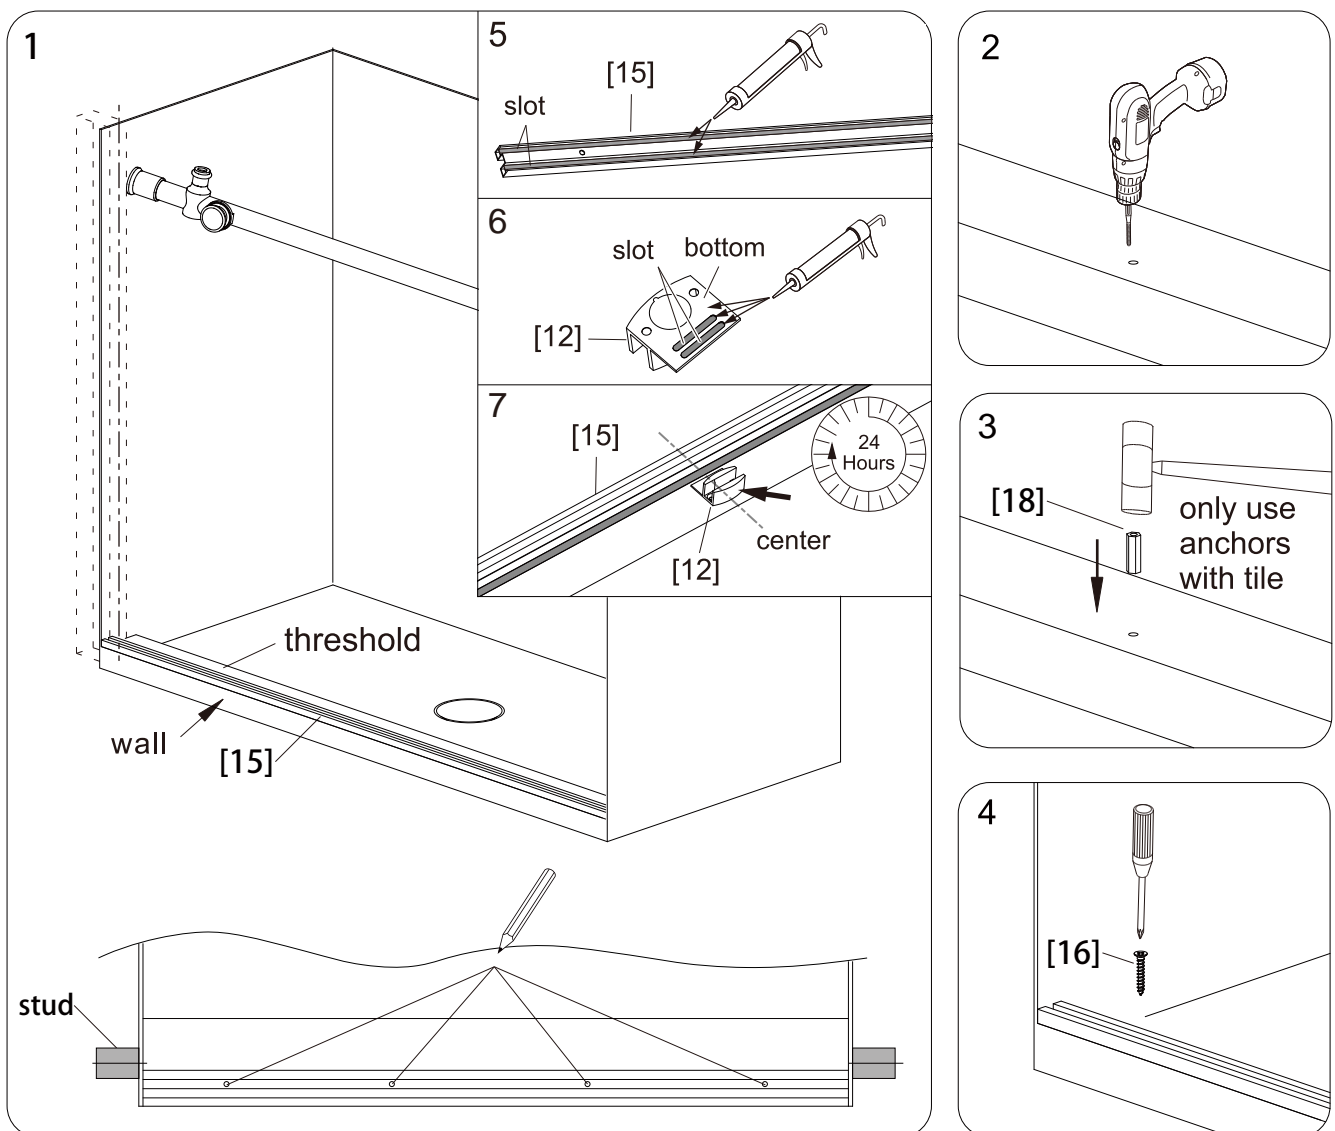

Fig 4a
1. If this shower door is intended to be installed with **Bottom Rail [15]** flushing with the outside wall, slightly position the **Bottom Rail [15]** flushing with the outside wall. If this shower door is intended to be installed with **Bottom Rail [15]** behind the outside wall, slightly position the **Bottom Rail [15]** with outer side of it aligns with the marked lines on the side wall. Mark the screw holes through the **Bottom Rail [15]**. (Fig 4a.1)
2. Remove the **Bottom Rail [15]** and drill a **1/8"** hole at each marked location if drilling into acrylic or wood material. Drill a **7/32"** hole if drilling into tile material and insert the **Small Anchors [18]**. (Fig 4a.2, Fig 4a.3)
3. Secure the **Bottom Rail [15]** with **Screws [16]**. Then, skip to Step 5. (Fig 4a.4)
4. Apply a good quality of Silicone Sealant to the slots of **Bottom Rail [15]** and place it to the marked threshold. (Fig 4a.1, Fig 4a.5)
5. Apply a good quality of Silicone Sealant to the slots and bottom surface of **Guide Block [12]** and place it close to the center of back surface of **Bottom Rail [15]** facing to the shower room. Allow 24 hours for the silicone to cure before next step.(Fig 4a.6, Fig 4a.7)